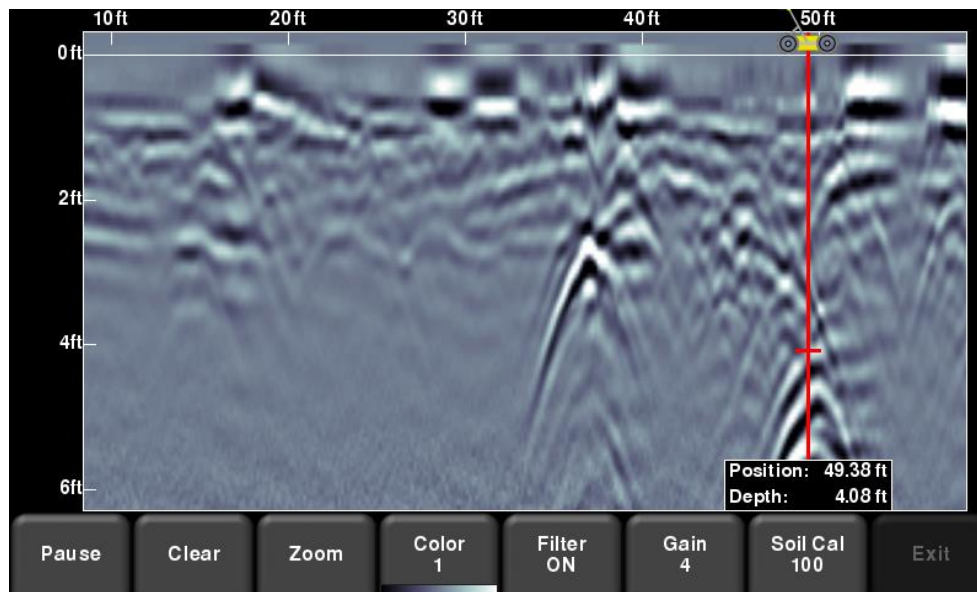

Figure 8-3: Back-up indicator when reversing
Line Scan mode incorporates a back-up feature to enable you to accurately locate targets and mark them on the ground. After acquiring some data on the screen, move the system backwards (Figure 8-3).
- **Depth Indicator:** A short red horizontal line corresponds to the current depth value, as shown in the bottom number in the box. To determine the depth of an object, move the indicator up or down by dragging the horizontal line to the desired location (Figure 8-3). Alternatively, you can also use the **Up** and **Down** arrows on the 4-way directional keypad.